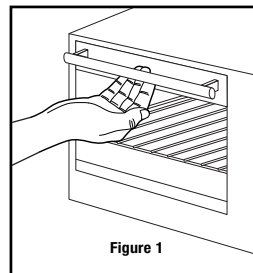

Figure 1
USING YOUR COUNTERTOP OVEN (SEE FIG. 1 AND 2)
Step 1: Grab the center of the handle underhanded with fingertips (see Figure 1).